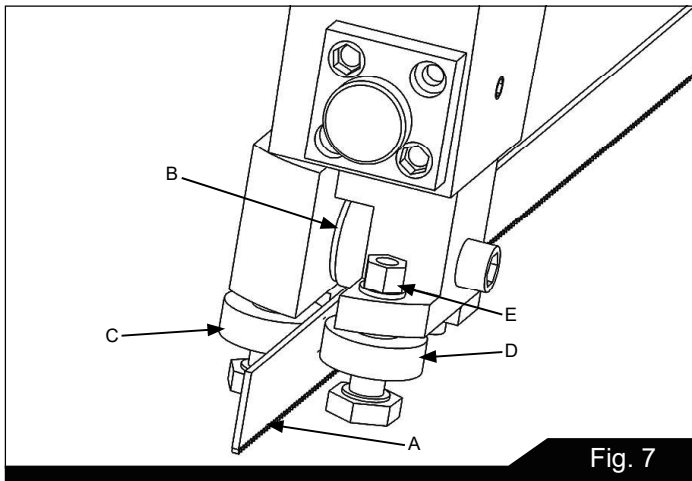
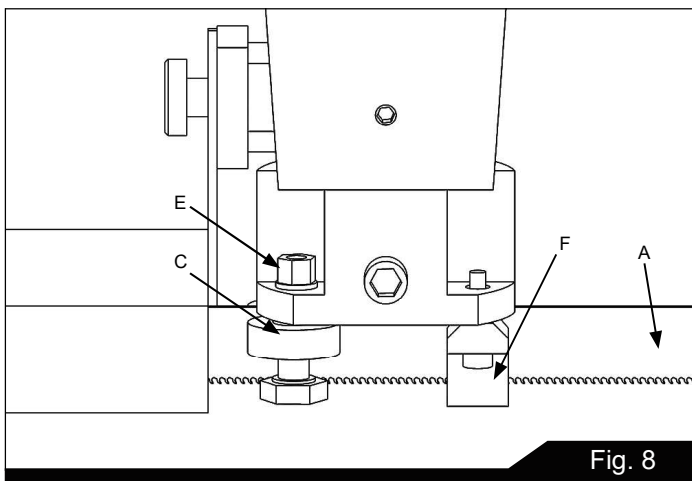

Fig. 7
Fig. 8
The back of the blade (A) Fig. 7, should ride against the back-up support bearing (B) which is positioned at an angle so as to provide greater bearing support, eliminating bearing wear and extending blade life.
The saw blade (A) should also ride between the two roller bearings (C) and (D) Fig. 7.
Part (F) shown Fig. 8 is a tungsten carbide block, after completing the adjustments shown in Fig. 7, tighten the Part (F) onto the surface of the saw blade.